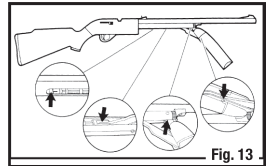

Fig. 13
- Your airgun will maintain proper function longer if you oil it every 250 shots. Put one drop of Crosman Q241 Pellgunoil® (available at crosman.com) on the pump pivot pins and the pump cup in the pump mechanism. (Fig. 13) DO NOT use petroleum distillate based oil or solvent and DO NOT over-oil as this can cause damage to your gun.